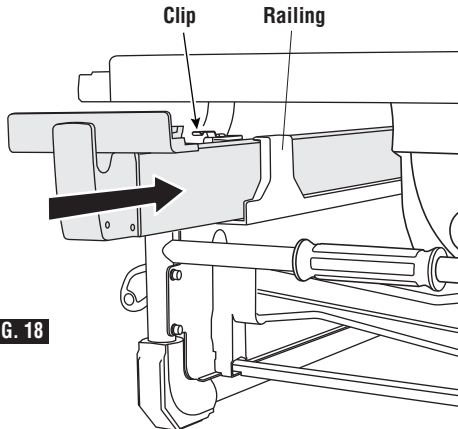

FIG. 18
1. Turn rip fence upside down, then feed the end of the fence into the railing (Fig. 18).